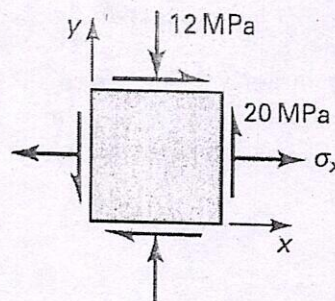

Figure 2
Q.2 The state of stress in a machine member is shown in Figure 2. The allowable compressive stress at the point is 14 MPa. Determine (a) the tensile stress σ_x and (b) the maximum principal and maximum shearing stresses in the member. Sketch the result on properly oriented elements.